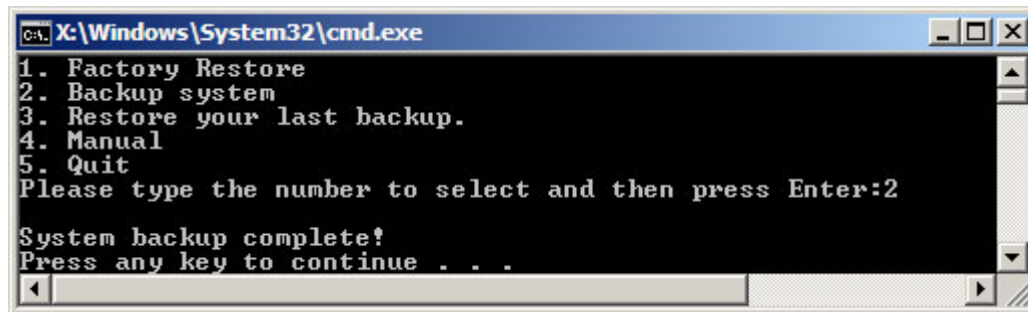

Figure D-38: System Backup Complete Window
Step 3: The screen shown in **Figure D-38** appears when system backup is complete.